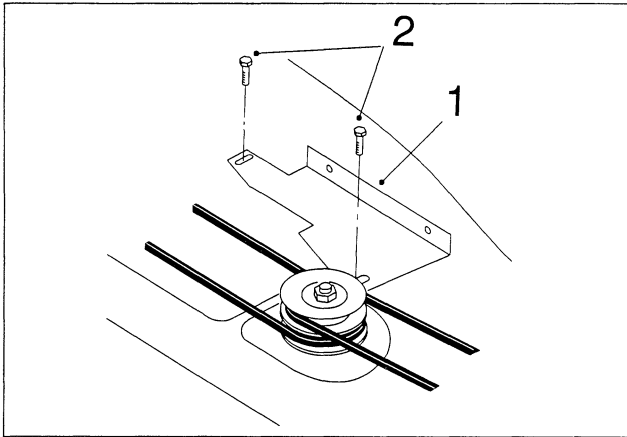

Figure 7
1. Install the mower belt-cover bracket (Fig. 7). Mount the belt-cover bracket using two $\frac{1}{4}$ " x $\frac{1}{2}$ " thread-forming hex-head flange screws in the same holes that the original cover used.